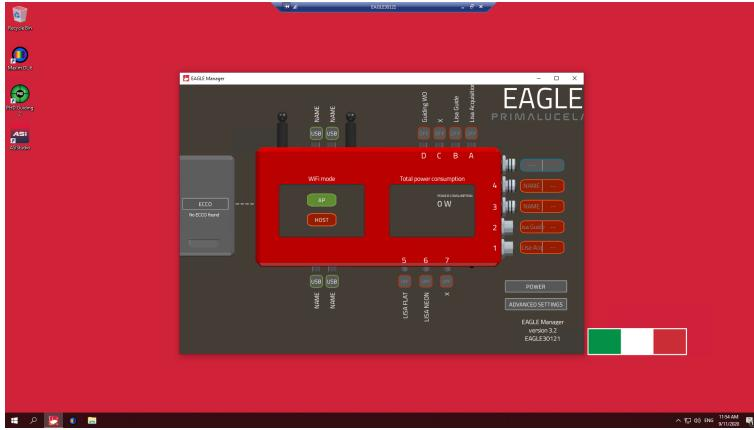

Fig. 4: The EAGLE remote desktop window
- If the EAGLE remote desktop is not already running: on the desktop computer, click on the "EAGLE Zonnekoepel.RDP" icon to open a remote desktop on the EAGLE. A window as soon in Figure 4 should open. In the middle of this window the "EAGLE Manager" should be shown. If not shown, you can open it using one of the icons in the icon bar at the bottom of the window. With this "EAGLE Manager" you can control the LISA spectrograph.
- The EAGLE Manager should be connected already to the EAGLE itself but sometimes this connection is lost. This can be checked by looking at the value given in the middle of this program for "POWER CONSUMPTION". In the case of Figure 4, this value is "0 W" but it should be "6.0 W". This indicates that the EAGLE Manager is not connected to the EAGLE itself. To connect it properly, click "ADVANCED SETTINGS" in the manager. A new window will pop up (see Fig. 5, left). In this window, click on "RECONNECT" and then "OK". This will reconnect the EAGLE Manager to the EAGLE. This can be checked again by looking at the "POWER CONSUMPTION" which should say "6.0 W" (Fig. 5, right).
- When the EAGLE Manager is properly connected to the EAGLE, it should also be connected to the LISA. This can be seen in Figure 5 (right panel) where at "A" and "B" in the figure the "Lisa Guide" and "Lisa Acquisition" are listed as "ON" (compared to "OFF" in Fig. 4). However, the LISA camera's are not yet on; it only means that the EAGLE has connected to them. To switch them on, click on the "LISA" button indicated by the number "3". This will turn the camera's on and if you are in the dome you can hear them making noise now. In Figure 6 (left) you can see that the LISA camera's on because the button "3" has turned green. Now these camera's can be used to obtain data using the LISA spectrograph.